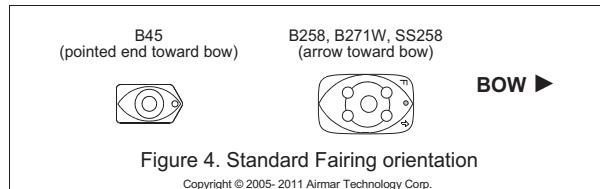

Figure 4. Standard Fairing orientation
3. Place the fairing on the table, so the cutting guide rests against the fence. The arrow/pointed end will be pointing *toward* you for installation on the starboard side of the boat or away from you for installation on the port side (see Figure 4).
*facing forward toward the bow. The long side must be parallel to the centerline of the boat (see Figure 4).*
2. From inside the hull, slide the backing block (if installing with a fairing) and the hull nut onto the cable. Seat any backing block against the hull, being sure the arrow end faces forward toward the bow. Screw the hull nut in place and tighten it with slip-joint pliers (see Figures 4 and 5).